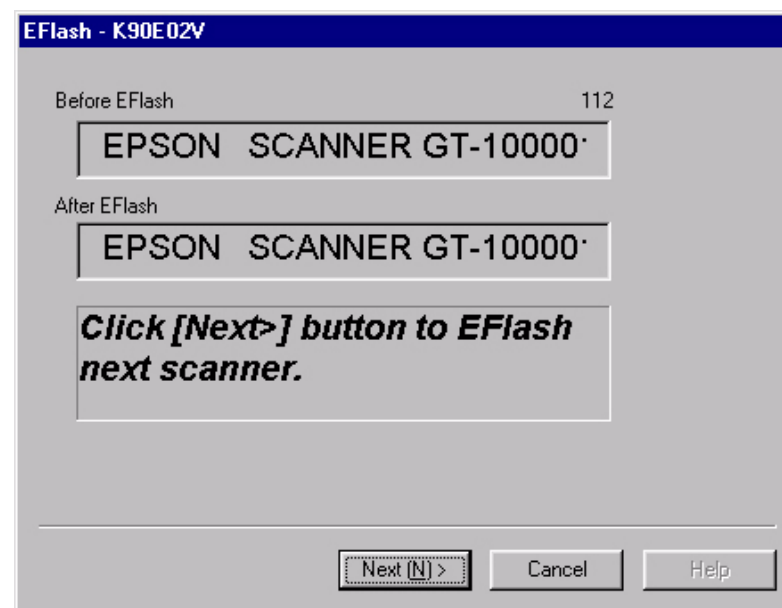

Figure 5-10.
7). Make sure that the scanner is ready, and click "Next". Figure 5-10 will appear and the scanner version information "Before EFlash" and "After EFlash" will be displayed. Compare the version before and after EFlash to confirm that the firmware has been properly written.